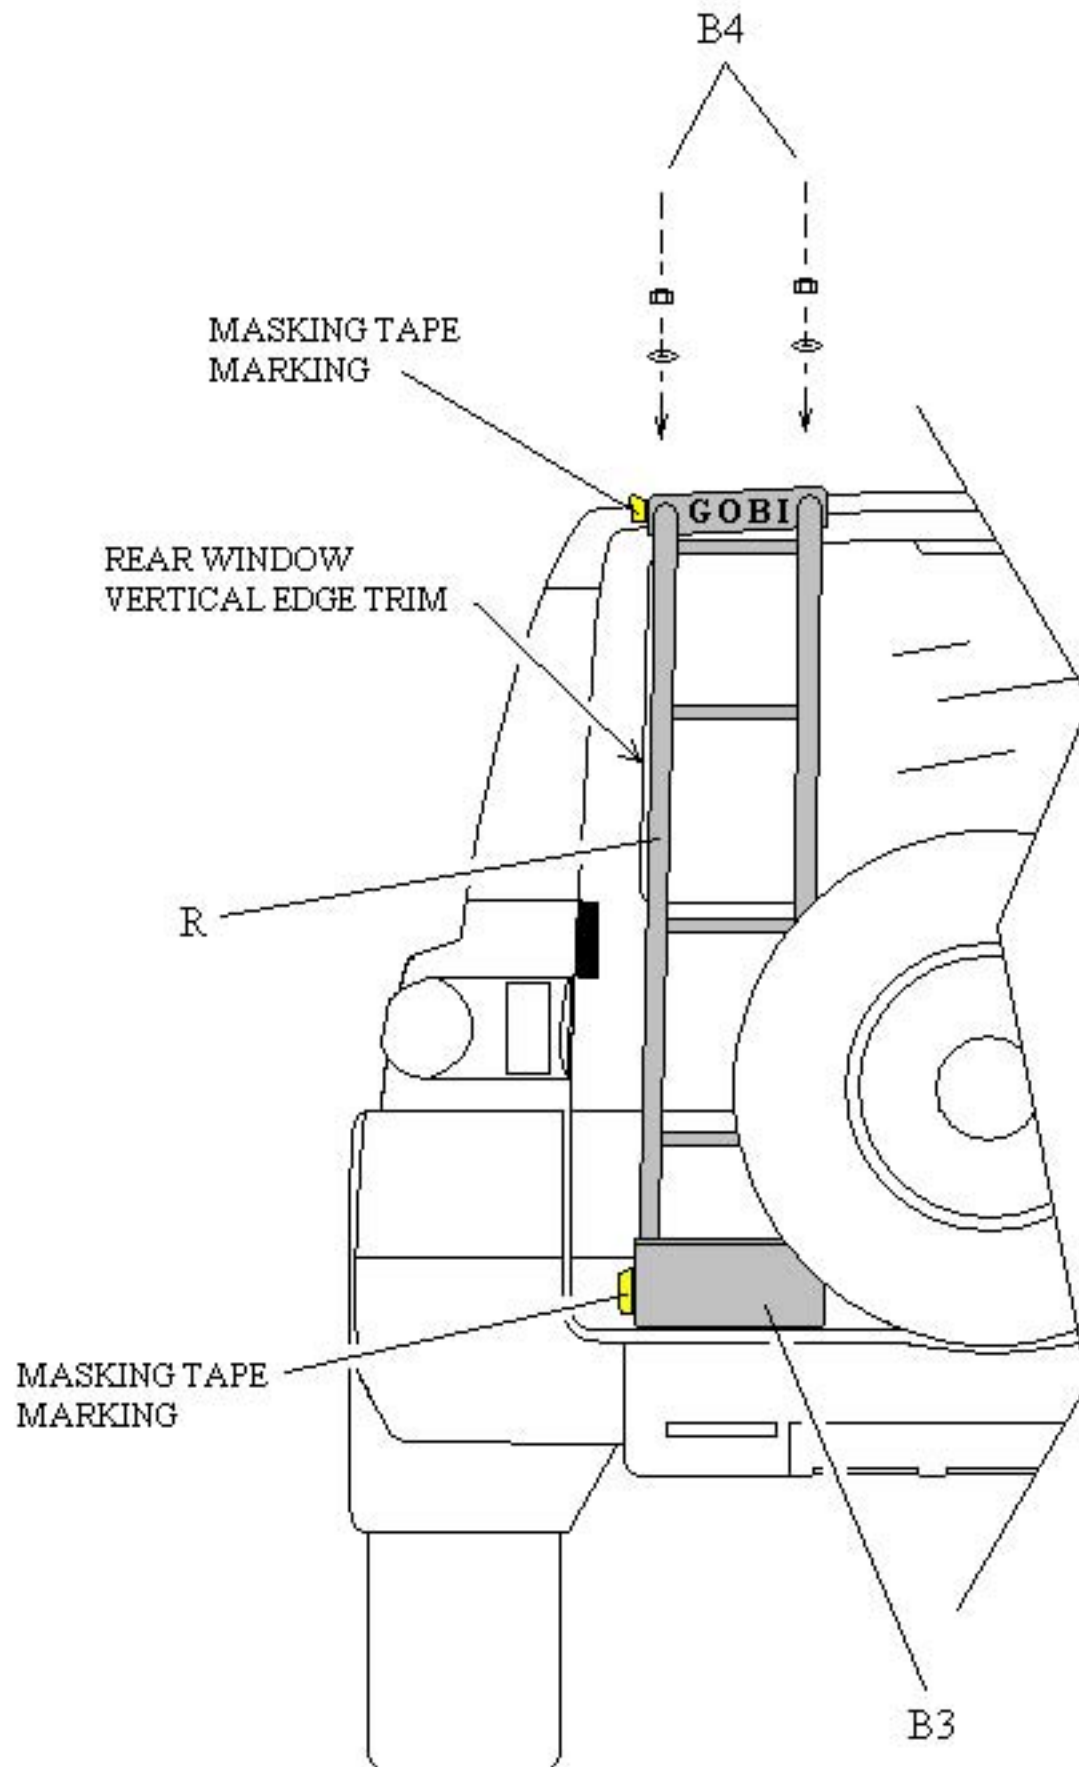

**Fig. 2**
- 1- Fully open the rear Toyota FJ door at this time. Remove ladder hanger bracket "C" as illustrated on page 2 from ladder packaging. Place the ladder hanger bracket on to the top of the rear FJ door lip approximately 2.0" from the left side edge as shown on page 3 **Fig. 1** #3 and page 4 **Fig. 2** #2 and #3, **Do not peel off the double back tape or cinch down screws at this time.**
- 4- Clean an area on the upper door surface as shown on page 3 **Fig. 1** with denatured alcohol to establish a clean bond for the double back tape under ladder hanger bracket "C". Peel off the protective covering of the double back tape as shown on page 3 **Fig. 1** "Ca". Attach ladder hanger bracket "C" to the top of the rear door along edge #3 page 3 **Fig. 1** and align with previously placed masking tape. Make sure prior to pressing the double back tape to the rear door that rear door edge #3 is in contact with the entire length of the inner most edge #4 of the ladder hanger bracket "C" shown on page 3 **Fig. 1** and page 4 **Fig. 2** then press the ladder hanger bracket "C" firmly onto the door lip. Using the 3/32" allen wrench provided in bag #1 of the hardware kit tighten the set screws under the ladder hanger bracket "C" as shown on page 4 **Fig. 2** do not over tighten.